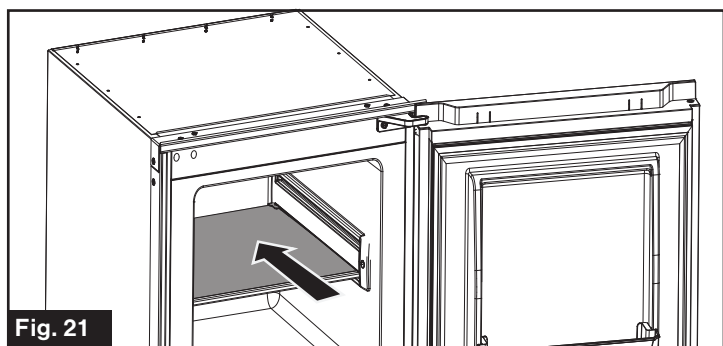

Fig. 21
- Slide the shelf into an appropriate position and fix with screw. (Fig. 21)